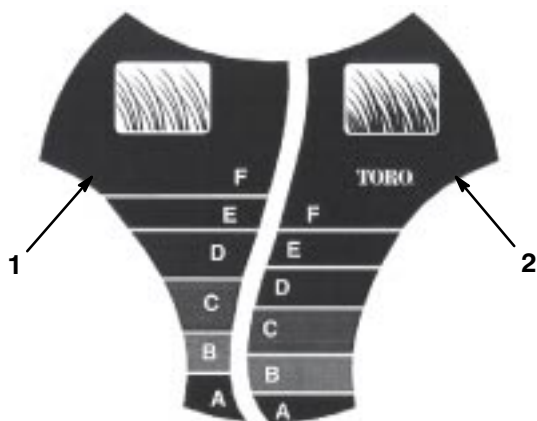

Figure 12
The *SmartWheel™* has two cutting scales: *Sparse/Normal* and *Lush*—to ensure the best cutting height setting in any mowing condition (Fig. 12). Use the *Sparse/Normal* scale
2. Move the lawn mower into the grass; stop moving the lawn mower when the *SmartWheel* design on one of the rear wheels is upright (Fig. 12).